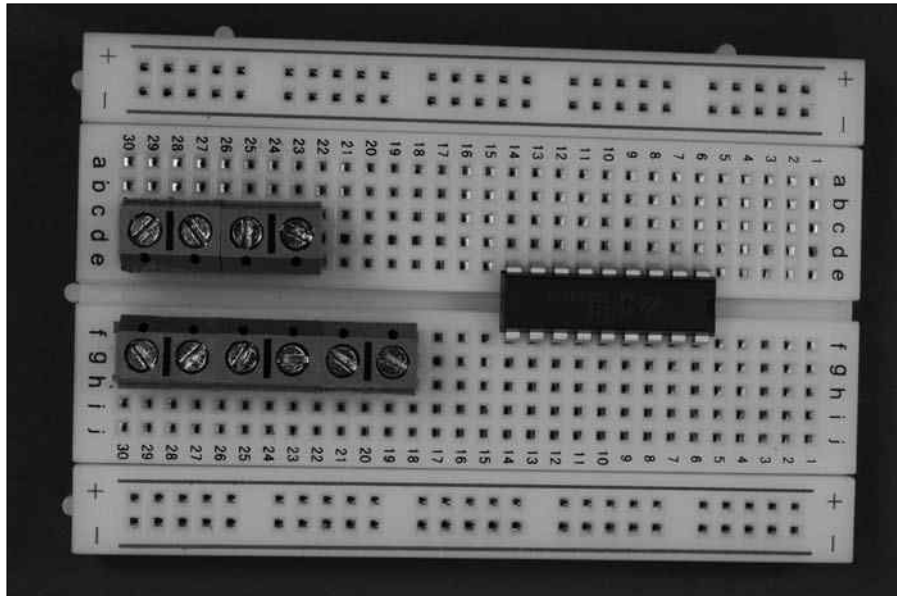

Figure 13-7:
- 1. Place HT12E (IC1) and five terminal blocks on the breadboard, as shown in Figure 13-7.**